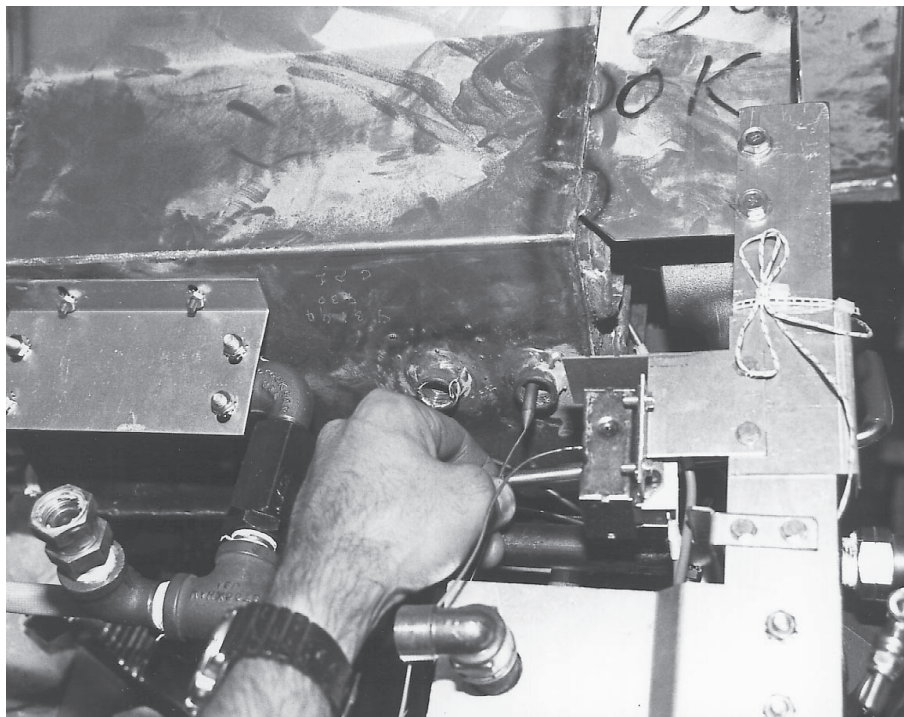

Fig. 12
6. Pull the thermostat bulb from the fryer through the tank bottom. (Fig. 12)
5. Pull the thermistor probe lead from the fryer tank and install new Thermistor probe by reversing steps 1-6. (See Fig. 12)